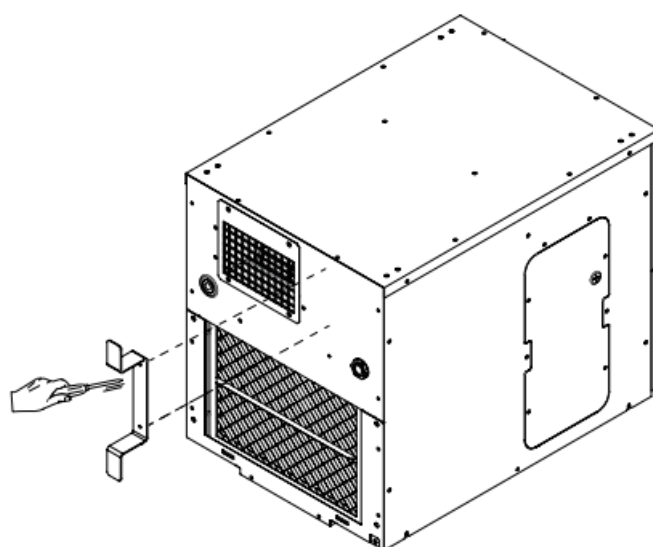

Figure 4 - power cord holder attachment
3. Use screws (enclosed inside of accessory box with cord holder) to install the cord holder in the unit as shown in Figure 4.